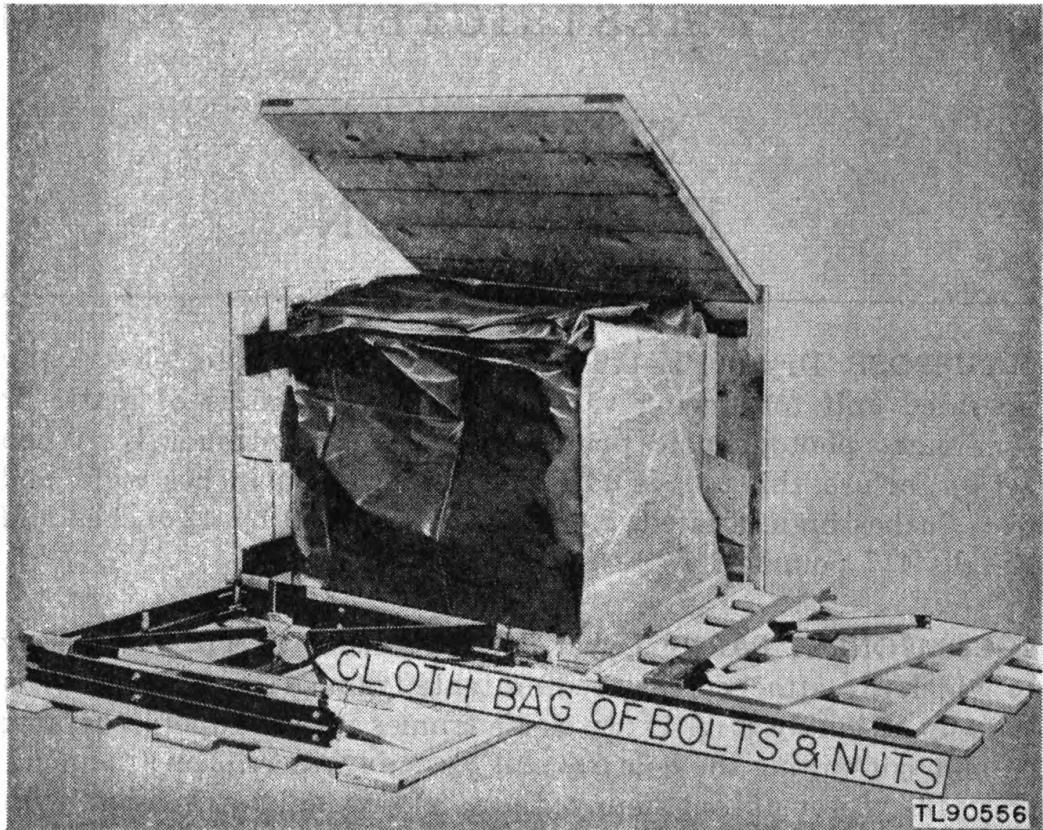

Figure 2. Method of unpacking.
- b. The packaging when the dryer is first received contains moisture-proof paper with bags of silica gel attached to absorb excess moisture. If the dryer is carefully unpacked, these same wrappings may be used for a later shipment (fig. 2).
a. **Unpacking.** Remove the sides of the crate and all the parts which are bolted to the sides (fig. 2). Great care must be exercised to sort out all the small parts carefully and not lose them during unpacking. The superstructure, including the apron, drum, side frames, and connected parts, is sealed in the moistureproof bag and crated in an assembled condition. Bolts and spacers used in packing are not used in the assembly of the machine.